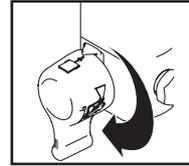

Fig. 15
9. Turn prime valve down to DRAIN position. (Fig. 15)